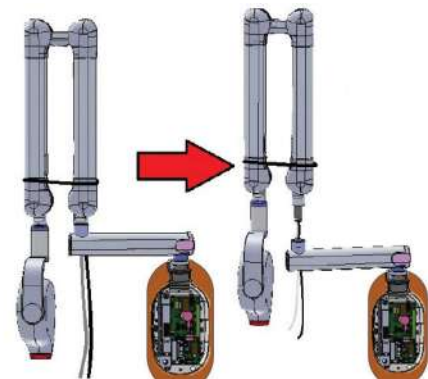

Figure 80
- Pull out the cables from the straight-arm and take it out through the bottom side hole at the free end of the straight arm as shown in Figure 80 .
- Lock the Scissor Arm in folded position by tying with a knot or using a long cable tie as shown in Figure 80 .
- Hold the scissor-arm firmly with both hands and slowly lift it simultaneously pulling the cables out of the straight arm carefully as shown in Figure 80 .